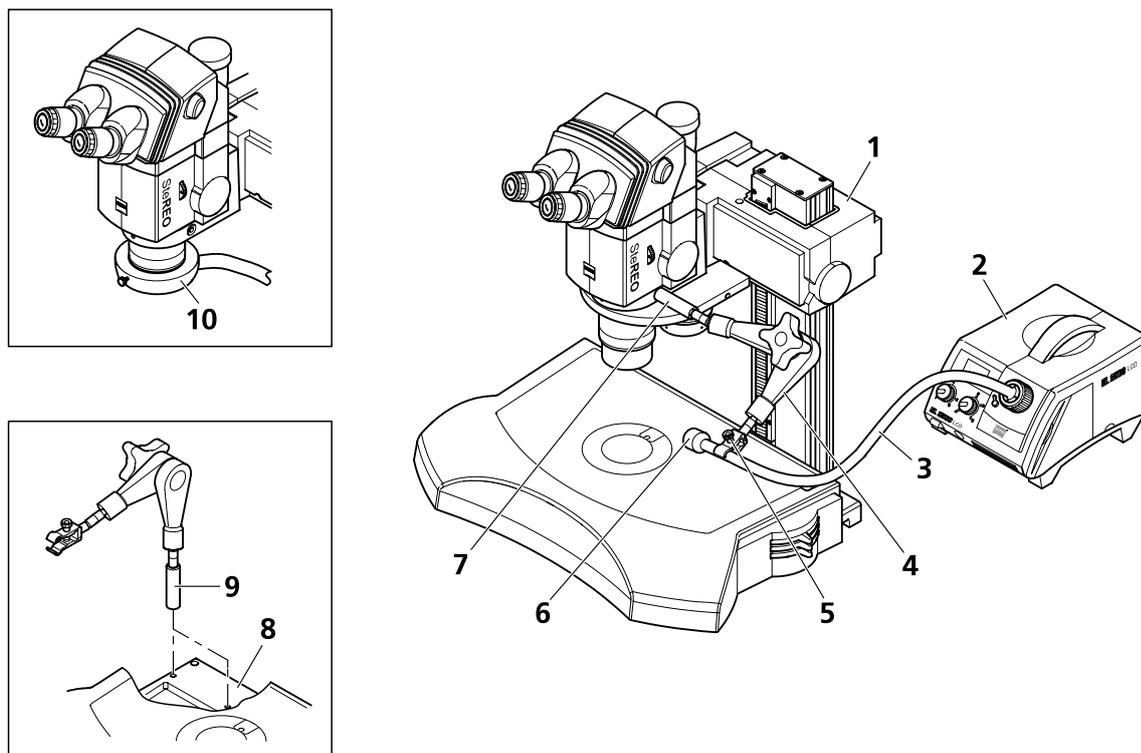

Fig. 19 Installing the incident-light illuminator
- Flexible light guide with focusing attachment** (Fig. 19/3 and 6):
To be fastened to objective nosepiece, microscope carrier or stand base (Fig. 19/8) by means of the articulated arm and the clamp.
- Fiber-optical ring illuminators and LED ring illuminators** (Fig. 19/10):
- Screw in the spacing rod (Fig. 19/7), if necessary.
- Hold the articulated arm (Fig. 19/4) in such a way that the label is correctly readable. Then, screw the clamp for the light guide (Fig. 19/5), the line light or the appropriate focusing attachment (Fig. 19/6) onto the upper end of the articulated arm.
- Screw the bottom end of the articulated arm (Fig. 19/4) into the spacing rod or one of the tapped holes on the stand. Tighten the tensioning screw on the articulated arm so that the latter can be used as lever.
- Connect the light guide (Fig. 19/3) to the cold-light source (Fig. 19/2).
The articulated arm may also be fixed to the stand base (Fig. 19/8). To this end, screw in the spacer (Fig. 19/9).
- Push the slit-ring illuminator (Fig. 19/10) onto the objective and clamp it by means of the knurled screw.
- Connect the light guide to the cold-light source (Fig. 19/2).